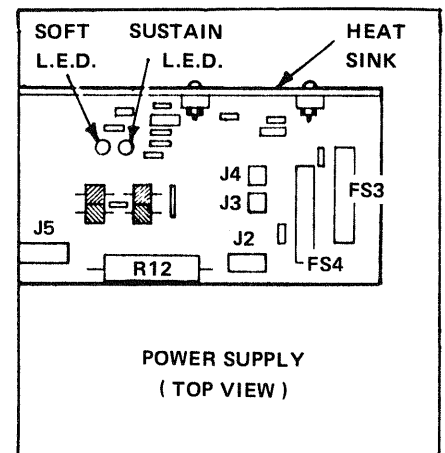

FIGURE 9-38 SOFT L.E.D. location.
- A. Observe that the SOFT L.E.D. (see FIGURE 9-38) on the Power Supply lights, then goes out five times during the program. If it does not, no signal is coming from the Playback Circuits. Refer to SECTION 10, TROUBLE ANALYSIS, for system repair procedures.
- A. If the SOFT L.E.D. on the Power Supply does NOT light when the PROGRAM is played, refer to SECTION 10, TROUBLE ANALYSIS, for system repair procedures. Refer to FIGURE 9-38.